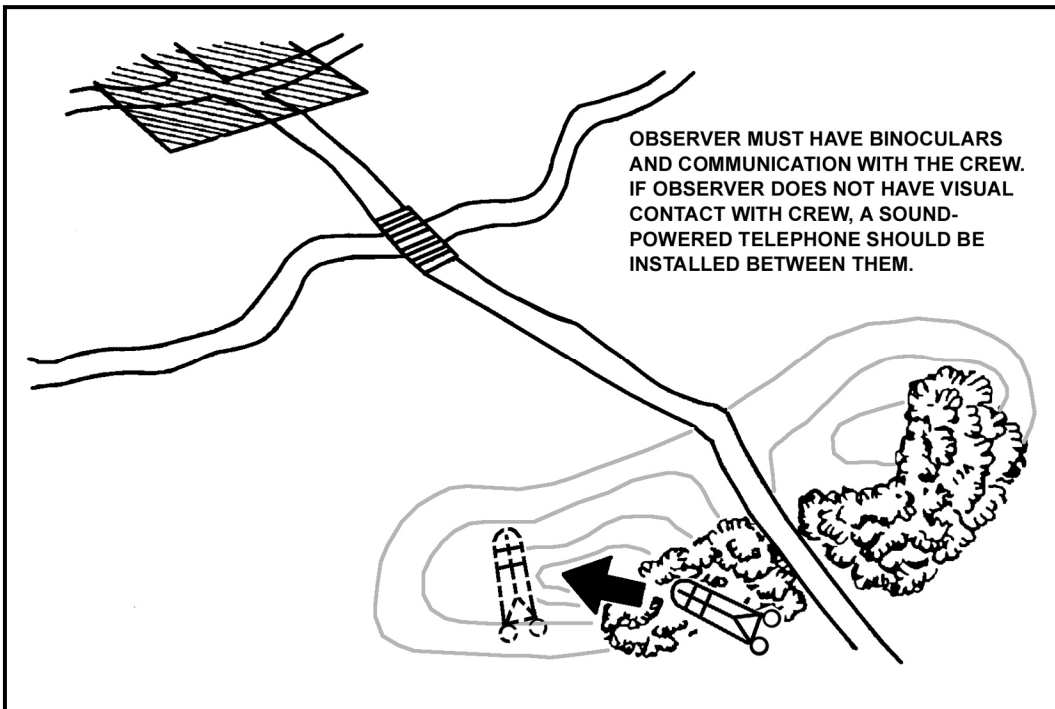

Figure 5-6. TOW hide position.
- (1) All vehicles travel to a position over the same route to prevent the enemy from detecting the number of vehicles present.
(2) The route taken should follow existing paths, roads, fences, or natural lines in terrain.
(3) Exposed routes should not end at a position.
(4) If only a short portion of the route into a position is exposed, sweep out the tracks with tree branches.
(5) Traffic in and out of a position should be held to essential movements only.
(6) Upon moving into a position, be sure to erase the trail leading into it.
(7) Ensure all standard principles of camouflage are adhered to (same as for tripod-mounted position).
b. If a hull-down position is not available, use a hide position (Figure 5-6).